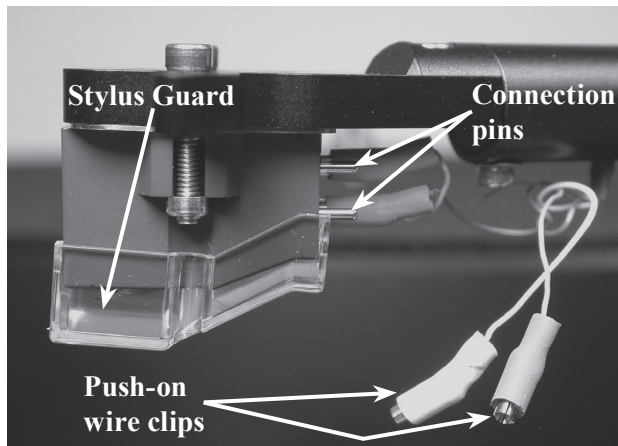

Figure 18
1. Un-install the factory installed Phono Cartridge from the MT2 Tone Arm. First, place the Stylus Guard on the Cartridge. Carefully disconnecting the four push-on wire clips from the phono cartridge rear connection pins, using an appropriate tool. Then remove the mounting screws and nuts using the supplied allen wrench. Place the removed cartridge, spacer plate, screws and nuts in a safe place for possible future use. Refer to figures 18 and 19.
3. Using an appropriate tool, attach the four color coded wire lead connections coming from the front underside of the Tone Arm onto the rear of the new Phono Cartridge, following the instructions supplied with the Cartridge. Refer to figure 18. Below is the Tone Arm Headshell wire color lead identification: